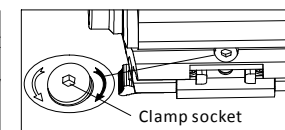

Fig4
- ① There is one Torx socket at the end of clamp adjusting bolt on the side of the mount. (See Fig 4) Before installation, loosen the screw to release clamp using included Torx wrench, and then;
- ② Pull up the cam clamp handle. Slide the sight into rail and close the clamp handle.
- ③ Tighten the clamp adjusting bolt using the Torx wrench. This will tighten the clamp to the rail to moderate degree. Try to pull up and close the clamp handle, adjusting the clamp screw appropriately, neither too tight nor too loose. This will avoid the mount becoming loose under recoil.